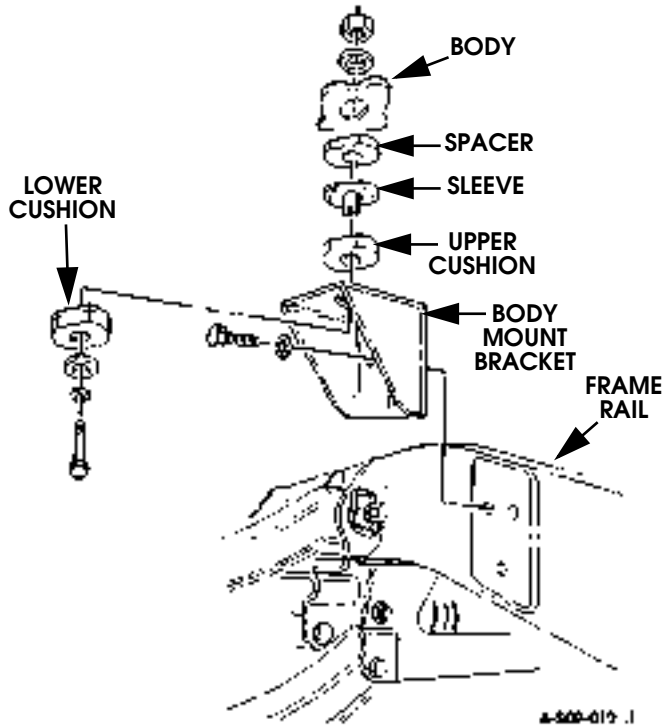

Figure 9-135: Right Intermediate Body Mount Bracket Replacement
2. Remove three bolts, washers, and body mount bracket from frame rail (Figure 9-135).
1. Apply thread-locking compound to three bolts and install body mount bracket on frame rail with three washers and bolts. Tighten bolts to 90 lb-ft (122 N•m) (Figure 9-135).